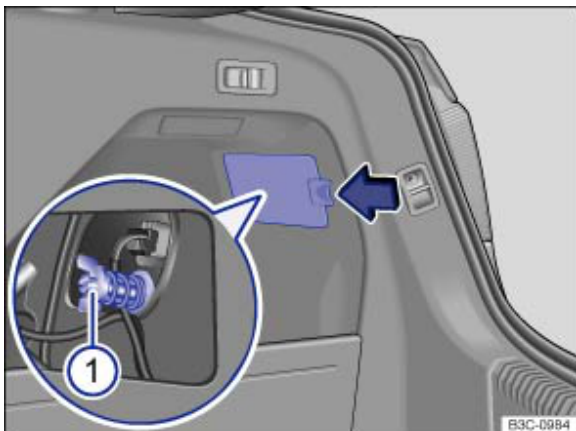

Fig. 248 In the body: removing tail light cluster
3. Open the cover → Fig. 248 (arrow).
4. Unscrew the securing bolts by hand → Fig. 248 ①.
16. Use one hand to hold the tail light cluster in the fitting position while using the other hand to screw the securing bolt firmly back on → Fig. 248 ①.